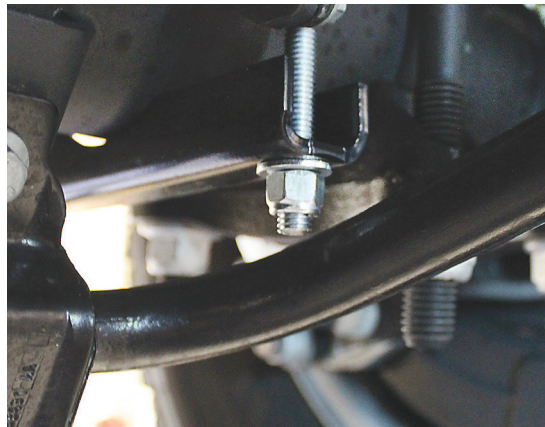

Fig. 19
- On vehicles with an anti-roll bar, it might be necessary to cut the rear carriage bolt so it does not contact the anti-roll bar (Fig. 19).